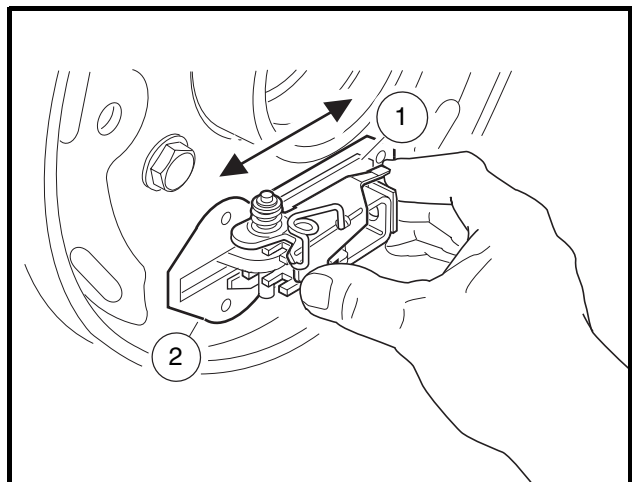

Figure 6-7 Lubricate Slide
3. Lubricate the slide (1) and slide plate (2) with dry moly lubricant (CCI P/N 1012151) on both sides of the backing plate. After lubricating, work the slide back and forth to ensure it slides smoothly and easily (Figure 6-7, Page 6-3). Reinstall rubber boot onto backing plate.